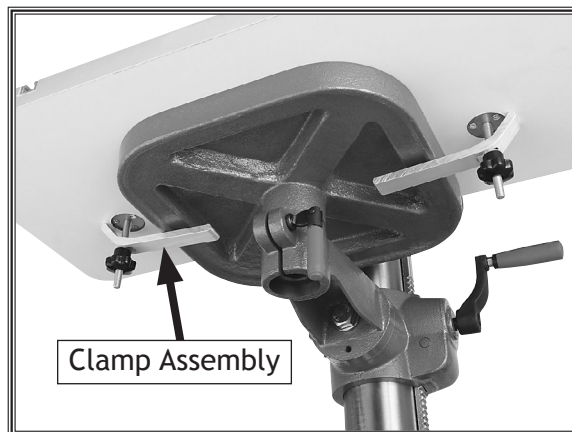

Figure 2. Installed table.
2. Place the Model D4033 table onto the drill press table, align the clamps as shown in Figure 2, then snug them in place.